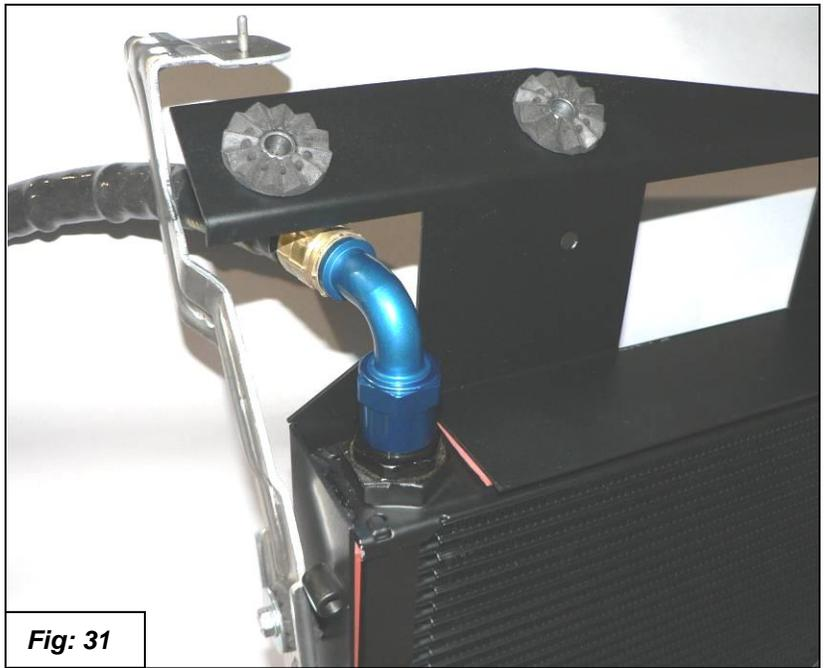

Fig: 31
37. Loosely install the oil line with the 90° fittings on each end. One end has a swivel and one end doesn't. Install the end without the swivel onto the topside of the oil cooler. Do not tighten yet. See figure 31.